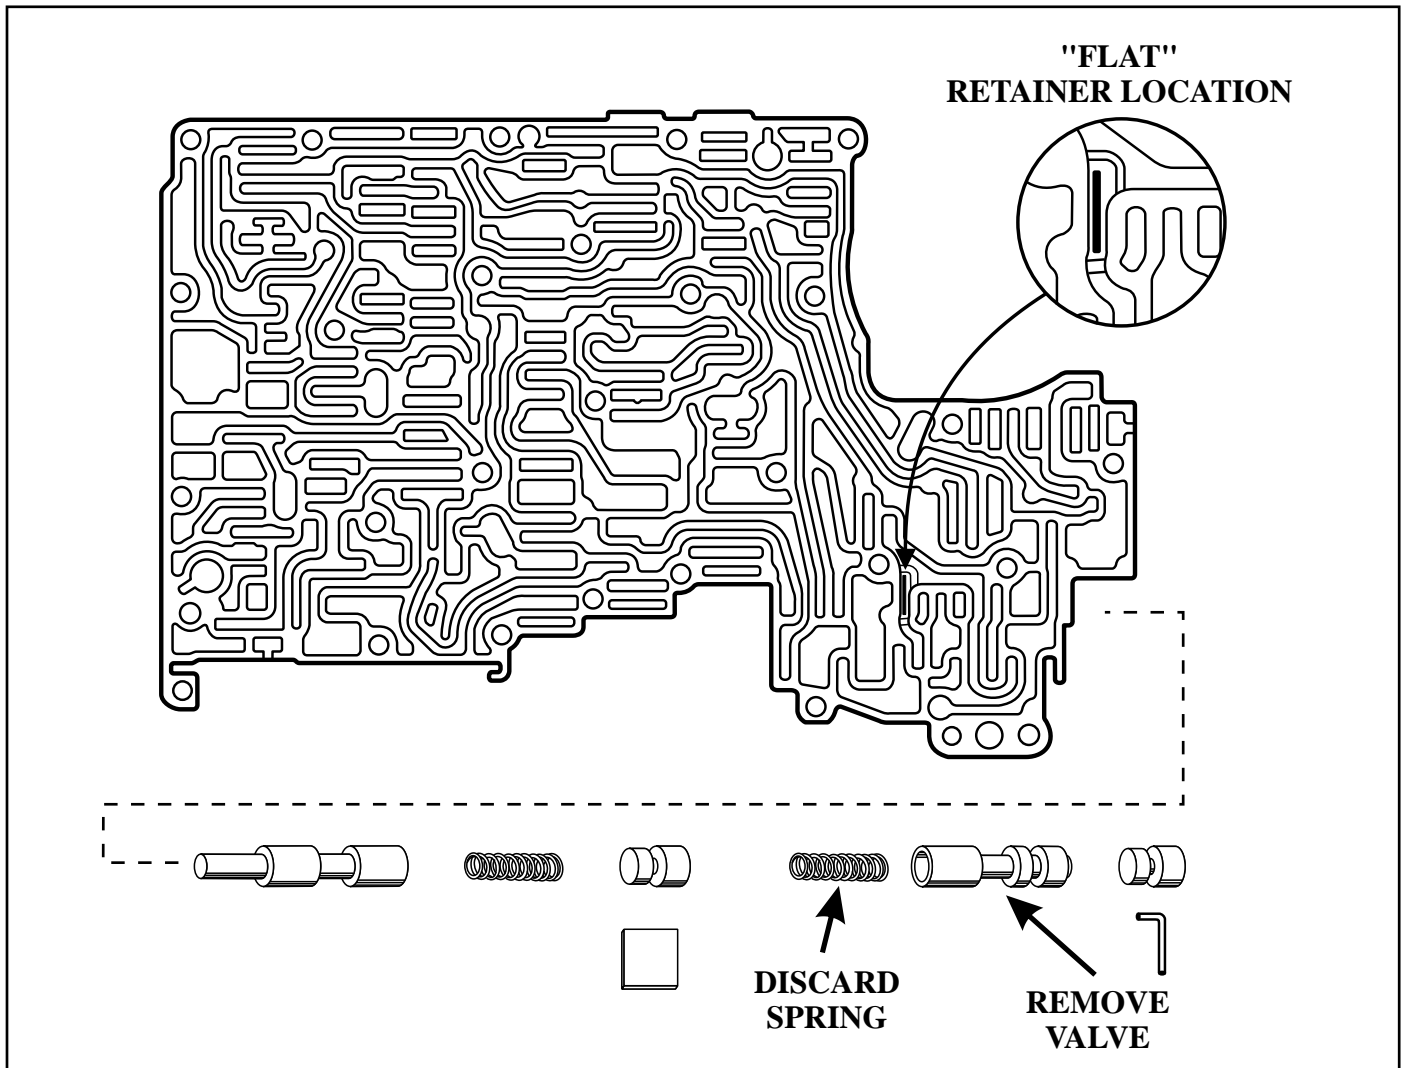

Figure 1
- (1) Remove the "L" shaped retainer, bore plug, reverse engagement control valve and reverse engagement control valve spring (See Figure 1).
- (2) Discard the reverse engagement control valve spring (See Figure 1).
- (3) Ensure that the "Flat" retainer and bore plug are installed in their proper positions, as shown in the inset in Figure 1.